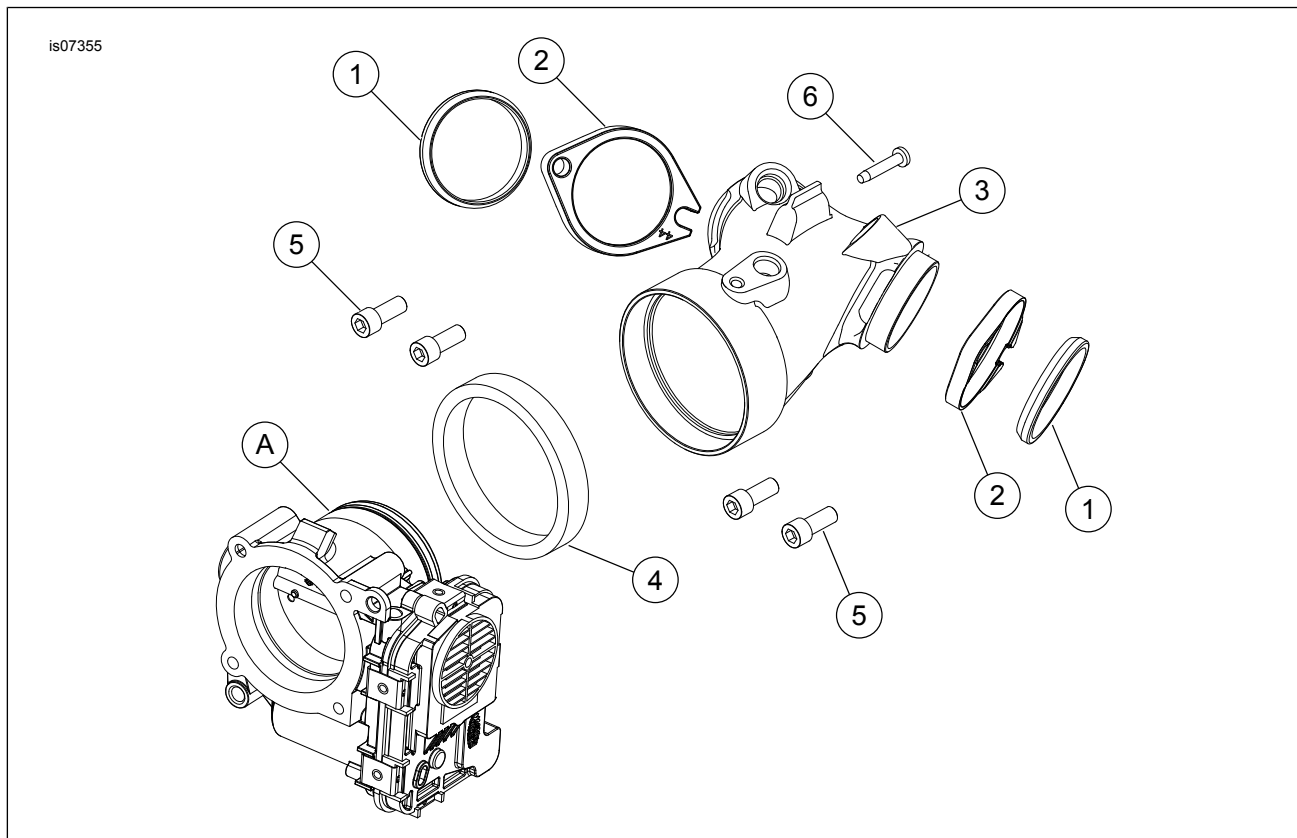

Figure 1. Service Parts: 64mm EFI Intake Manifold
7. Use the screw (6) provided in kit to fasten the fuel rail to the intake manifold. Tighten the screw to 10.2–12.4 N·m (90–110 in-lbs).
8. See the instruction sheet for the mating 64mm Pro High Flow EFI Throttle Body Kit and Figure 1. Assemble the throttle body (A) and intake manifold using the large seal ring (4) and install according to the instructions in the throttle body kit. It is recommended to pre-assemble flanges and seals (items 2 and 3) to manifold, in orientation shown, before induction system is mated to cylinder heads.